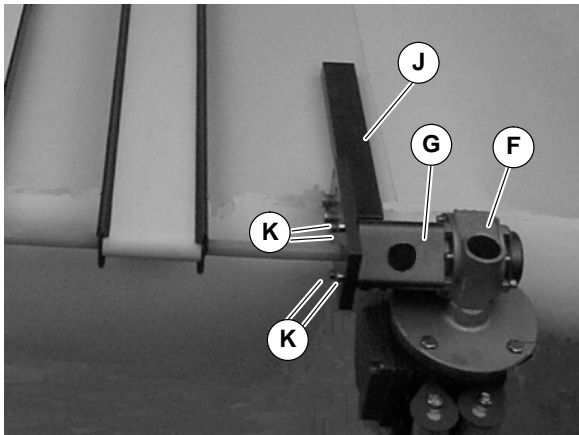

Figure 29
11. Attach gearmotor support assembly (J of Figure 29) and guard tube (G) to gearmotor assembly (F). Tighten screws (K) to 12 Nm.